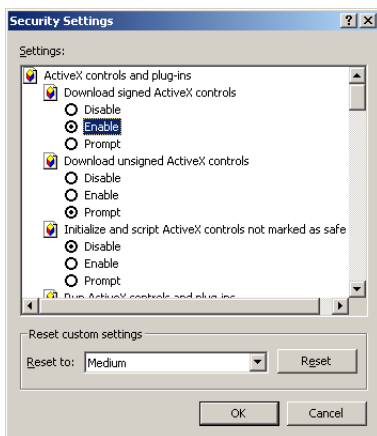

Figure 3-4 ActiveX Security Settings
8. In the Settings list, locate the ActiveX controls and plug-ins and select the following options (See Figure 3-4):